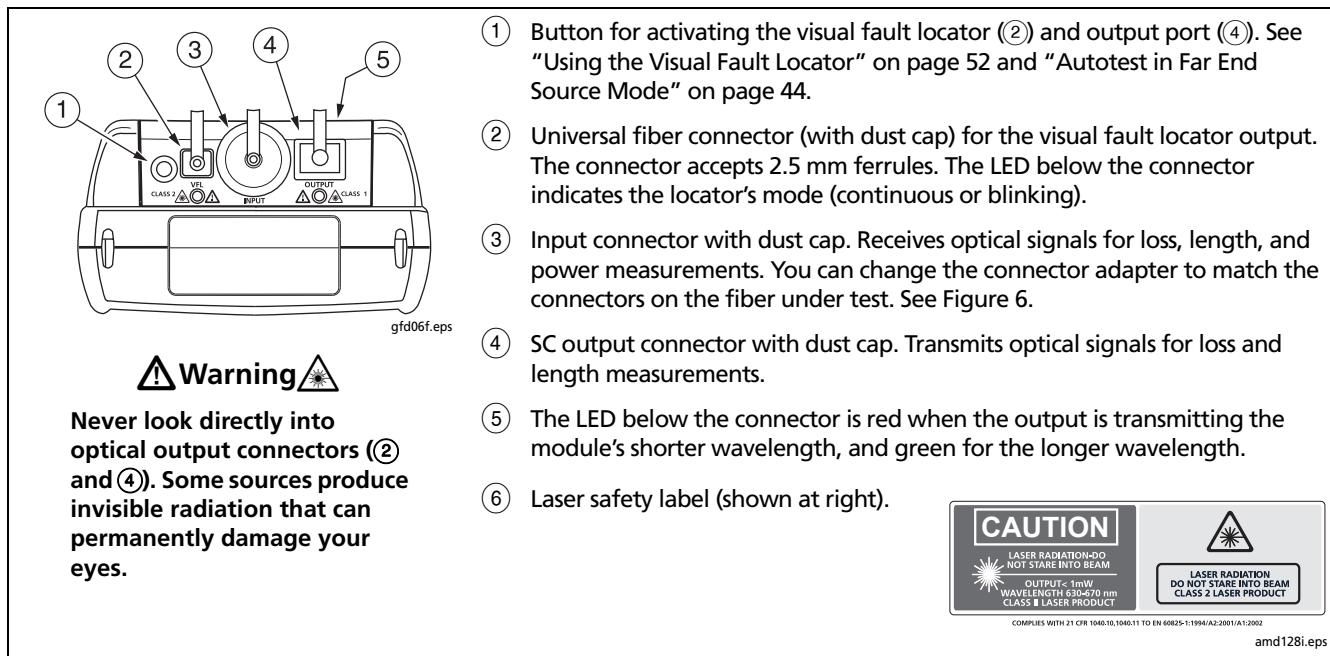

Figure 4. Fiber Module Features
- ① Fiber module. See Figure 4.
- ② Bail.
- ③ USB port for uploading test reports to a PC and for updating the tester's software.
- ④ Headset jack for talk mode.
- ⑤ Connector for the ac adapter. The LED turns on when the tester is connected to ac power.
- ⑬ Fiber module. See Figure 4.